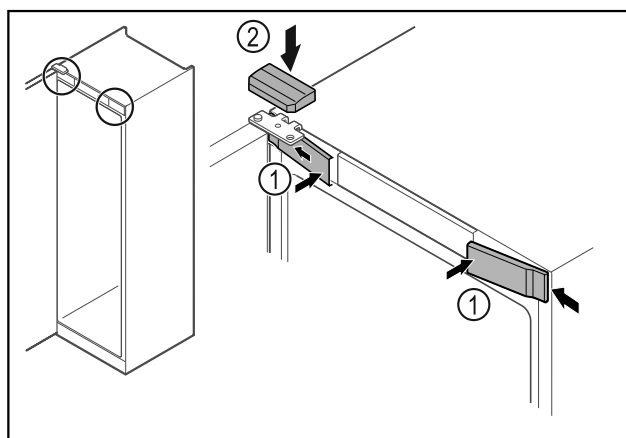

Fig. 47 *
- ▶ Hook in the front covers Fig. 47 (1) on the side and snap them into place.*
- ▶ Snap on the top cover Fig. 47 (2) from above.*